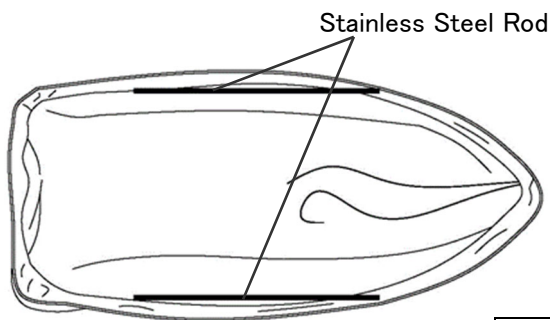

Figure-2
- ② Remove the two Stainless steel rods from the existing mat and insert them into the new mat. (Figure-2)